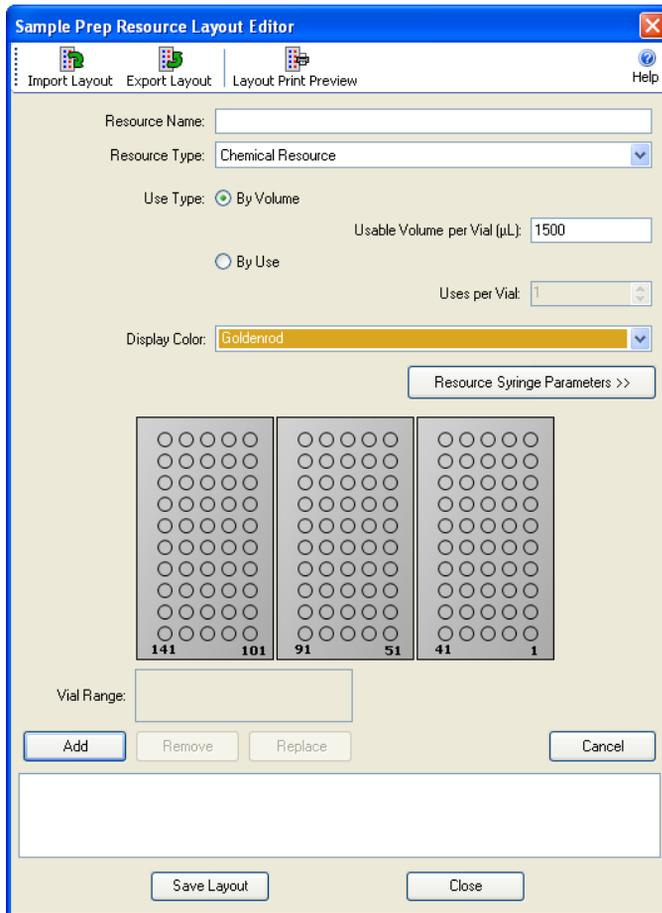

Figure 3 Sample Prep Resource Layout Editor
- 2 Navigate to **Instrument > Resource Layout...** to configure your resource layout using the Sample Prep Resource Layout Editor (**Figure 3**).